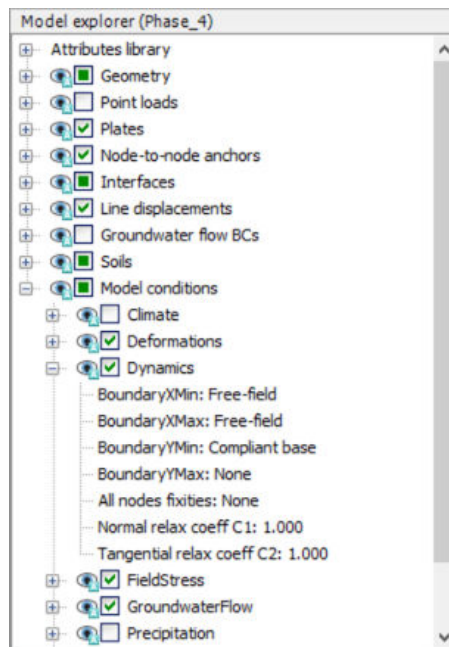

Figure 222: Boundary conditions for **dynamics calculations** (Phase\_4)
8. Expand the **Dynamics** subtree. Set the **BoundaryXMin** and **BoundaryXMax** to **Free-field**. Set the **BoundaryYMin** to **Compliant base** as shown in Figure 222 (on page 252).